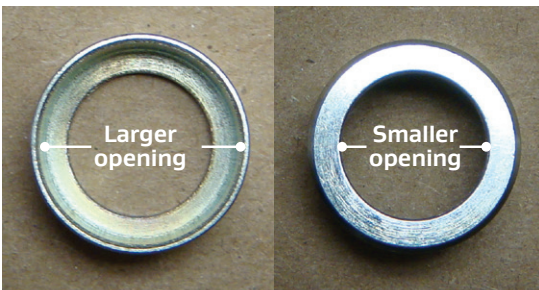

Figure 60: Compression sleeve openings
10. Slide the compression sleeve over the wires with the larger opening facing the cable and the smaller opening facing the end of the wires (Figure 60).